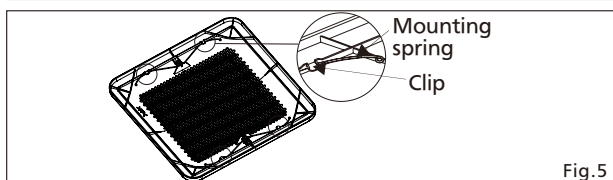

Fig.5
7. Take out the mounting springs from clips. (Fig.5)